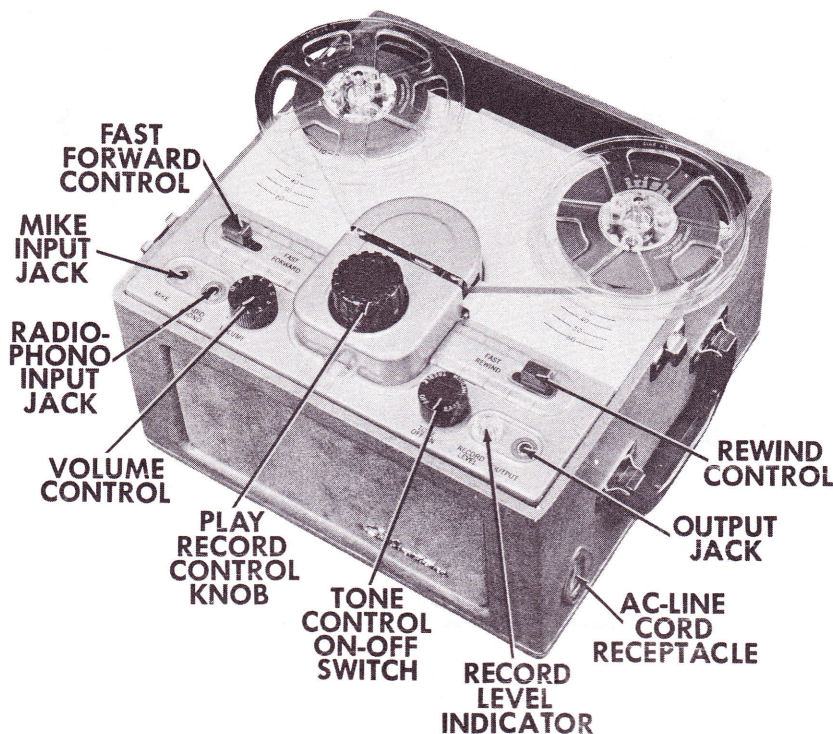

Figure 1
1. With the On-Off Tone Control in the "Off" position, insert the AC power cord into the receptacle on the right side of the cabinet (Figure 1).